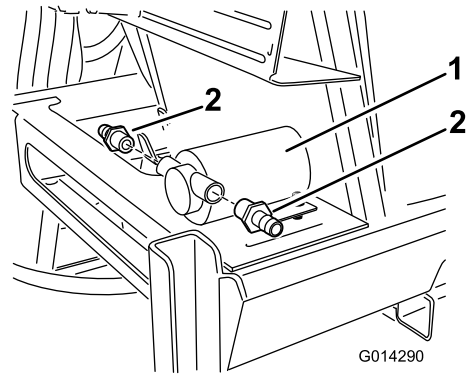

Figure 20
2. Install a straight, barbed connector to the rinse pump inlet and outlet openings (Figure 20).